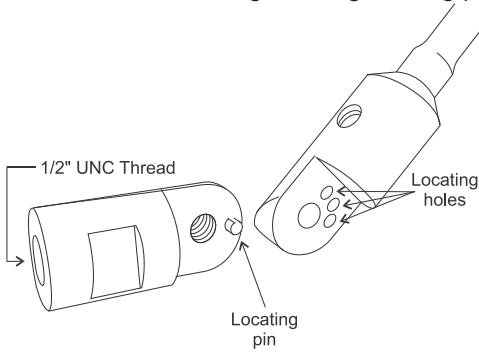

Figure 3
5. Attach the roof mount end of the whip to an appropriate location (see figure 1 as a guide). It could be attached to the optional NVIS kit magnetic mounting base (see figure 3), optional NVIS kit gutter mount bracket (see figure 4) or to a custom fabricated bracket (with 13mm hole). If the magnetic mounting base is used the roof mount end must be locked into one of three angle positions by locating the pin on the surface of one side of the fitting into the hole on the surface of the other side of the fitting (see figure 2). Once the correct angle is achieved tighten the knob firmly by hand.